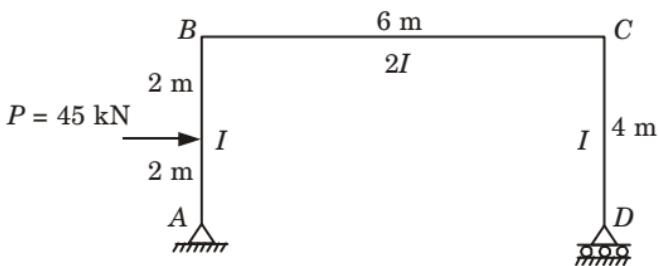

Fig. 8.
- b. Find the horizontal movement of the roller end  $D$  of the portal frame shown in Fig. 8. Take  $E = 2 \times 10^8 \text{ kN/m}^2$  and  $I = 3 \times 10^4 \text{ m}^4$ . The moment of inertia of the column section is  $I$  while that of beam is  $2I$ .